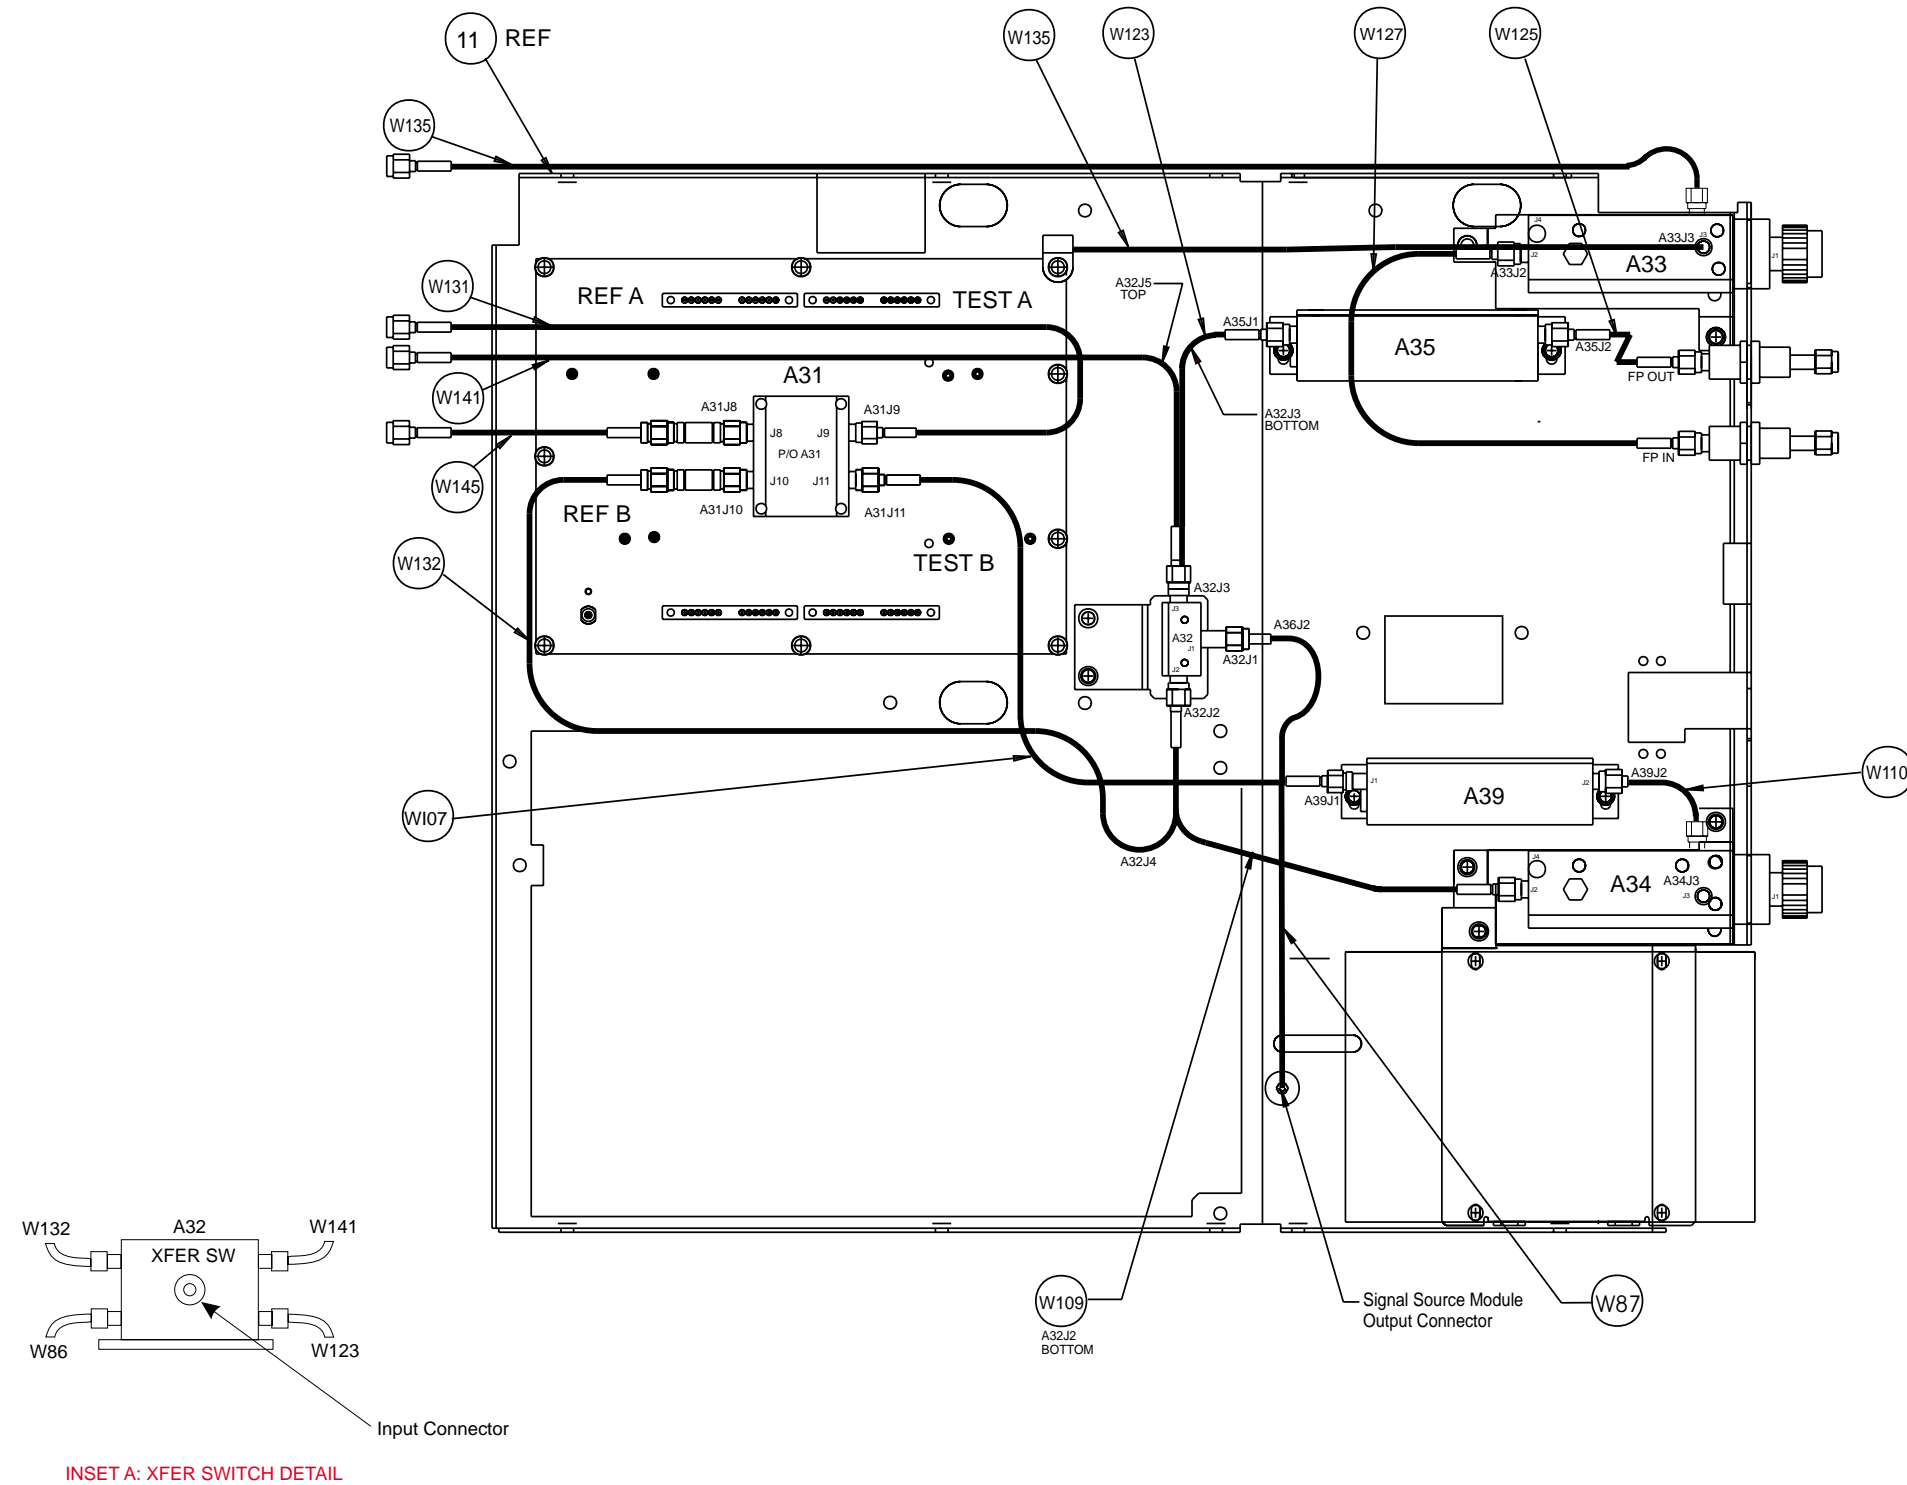

Figure 8-11. Test Set Module Components Layout Diagram for Models 37325A and Below
- Using a $\frac{5}{16}$ in. wrench, disconnect the semi-rigid coaxial lines W141 and W145 at the inside of the rear panel. See Figure 8-11 on page 8-23.
- Step 1. For all models except 37269B: disconnect the semi-rigid coaxial line W87 from the input connector of the Transfer Switch. See Figure 8-11.
- Step 3. Carefully flex (do **not** bend) the rigid-coaxial lines to gain access to the lower connectors of the Transfer Switch; see Inset A on Figure 8-11. Remove rigid-coaxial lines from these connectors.
- Step 2. Disconnect the two semi-rigid coaxial lines associated with the coupler/bridge (see Figure 8-11).
- Step 2. At J2 on the motherboard PCB, disconnect the Floppy Control (ribbon) cable that goes to the floppy drive. Dress the ribbon cable away from the Signal Source Module output connector; see Figure 8-11.